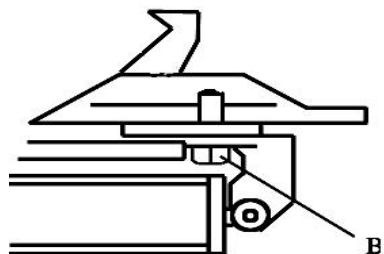

Fig 20
**Note:** After the first 20 days of use, retighten the jaws with tightening screws (B) on the Turntable (Fig 20)